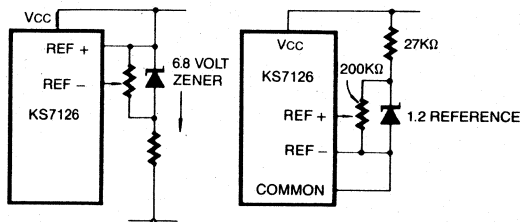

Fig. 4: Using an External Reference
The limitations of the on-chip reference should be also recognized, however. The reference temperature coefficient (TC) can cause some degradation in performance. Temperature changes of 2 to 8°C, typical for instruments, can give a scale factor error of a count or more. Also the common voltage will have a poor voltage coefficient when the total supply voltage is less than that which will cause the zener to regulate (< 7V). These problems are eliminated if an external reference is used, as shown in Fig. 4.